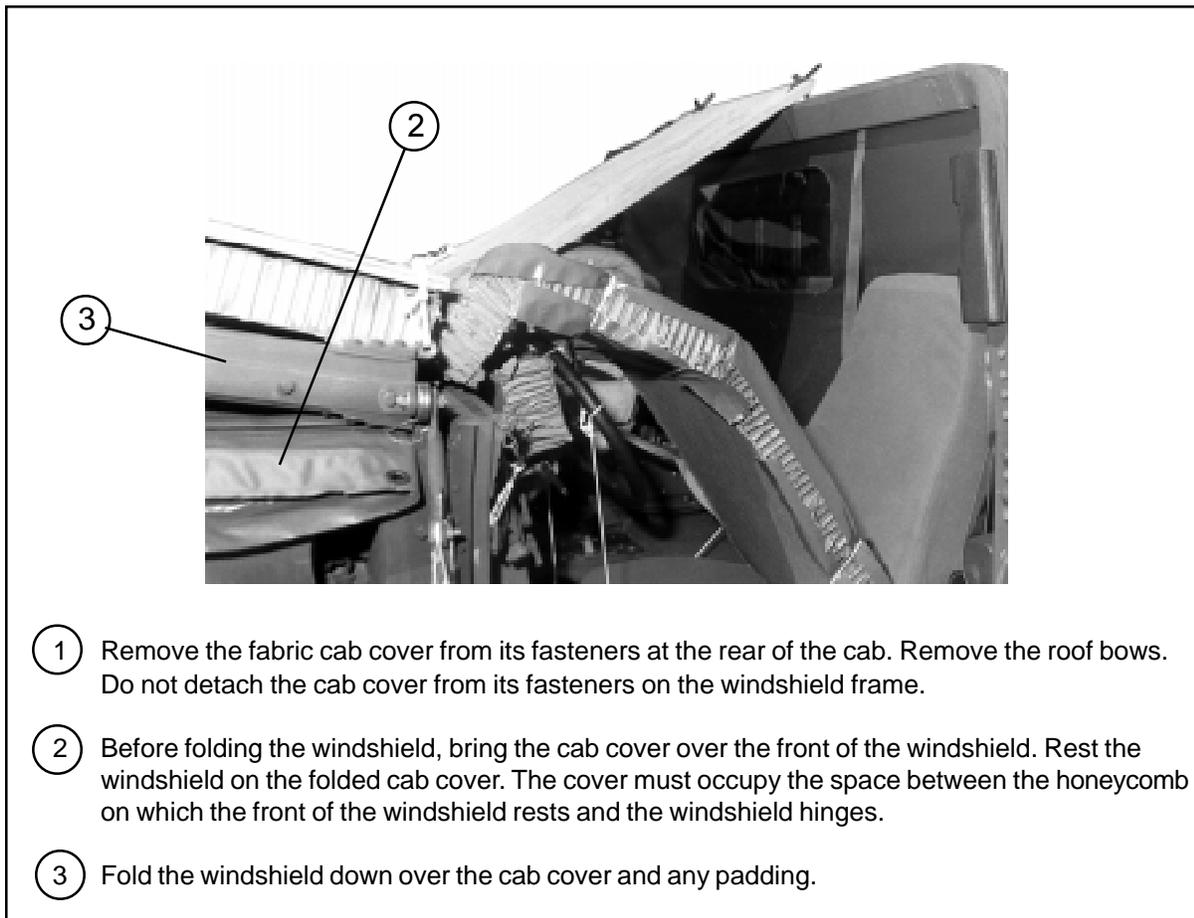

Figure 4-8. Windshield Folded Over the Cab Cover
- f.* Prepare the front of the truck as shown in Figure 2-10. Use the modification shown in Figure 4-8. Place a 4- by 78-inch piece of honeycomb along the front edge of the hood. Also, cover the hood with one piece of honeycomb cut as shown in Figure 2-10, step 6, instead of with two pieces.